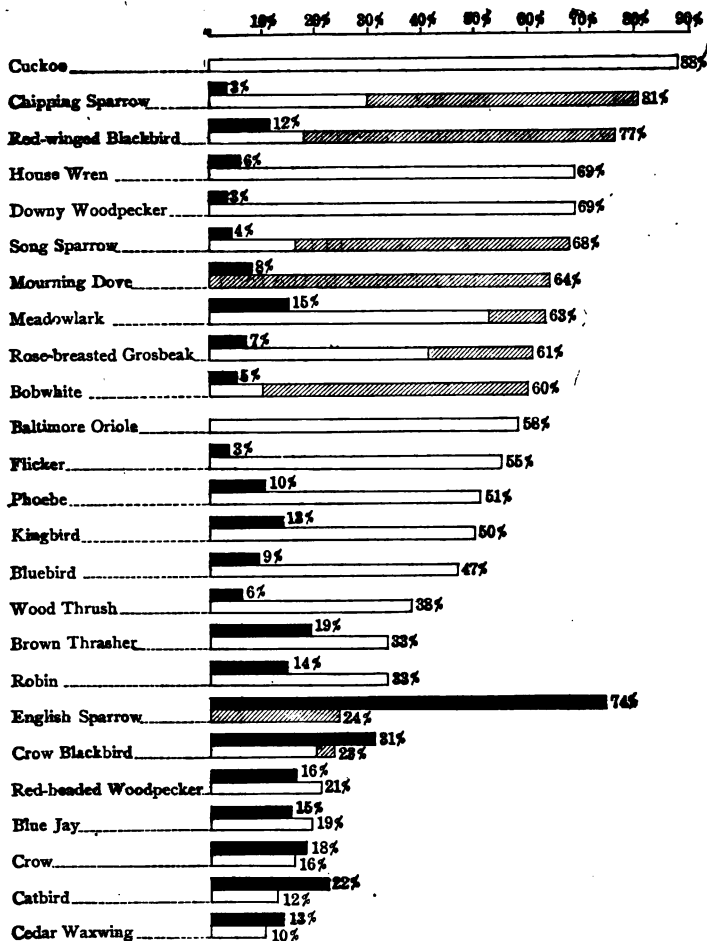

FIG. 183. — Food Chart of 25 Common Birds.
12. Arrange the birds according to the ratio between the good and harm done. Place the cuckoo and oriole at the head of the list. For the others divide the percentage of good done by the percentage of harm done. For example, for the chipping sparrow divide 81 by 3 (27). Do the same with the others and arrange them in order, the bird with the largest number first. Which five birds stand first in the list? Which five last?
13. (Optional.) If you wish you may make a chart from this table similar to the one in Figure 183. This chart is to represent the ratio between the good and harm done. Let one inch represent 5. Then for the chipping sparrow draw a line $5\frac{1}{2}$ (27) inches long. In a similar way draw lines for the other birds, arranging them in the order of the length of the line, the longest first. Make the lines for the cuckoo and oriole two inches and one inch, respectively, longer than that for the chipping sparrow.